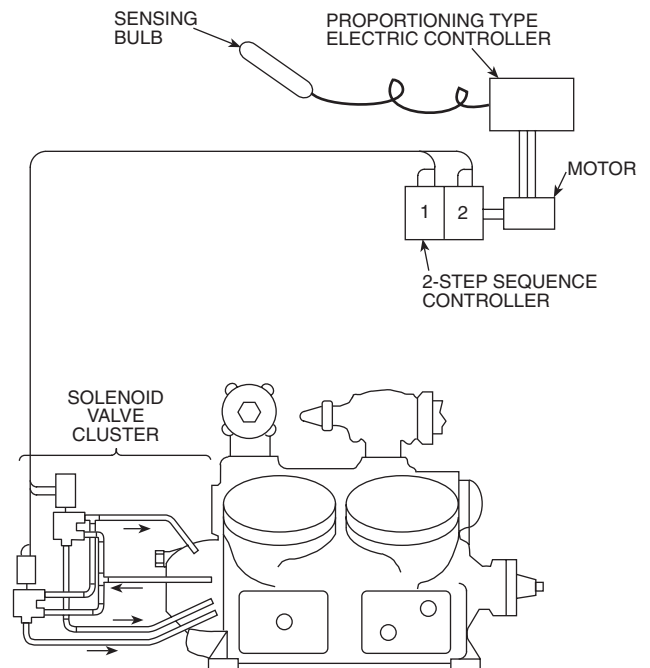

Fig. 10 — External Solenoid-Type Capacity Control
ELECTRIC SOLENOID VALVE CAPACITY CONTROL — Closer control of a conditioned space or medium can be realized by activating the cylinder unloaders directly in response to an external step controller activated by solenoid valves. A temperature sensing controller activates the electric solenoid valves. Refer to Fig. 10 for an operating concept using an external electric solenoid-type capacity control. All components external to the compressor must be field supplied. Modifications required for standard sequence are as follows:
Usually modification to the compressor capacity control system is required. The compressor can be modified in 2 ways: (1) for applications requiring 50% capacity reduction; (2) for applications requiring more than one step of capacity reduction. See Fig. 10 for a typical 2-step external capacity control arrangement.